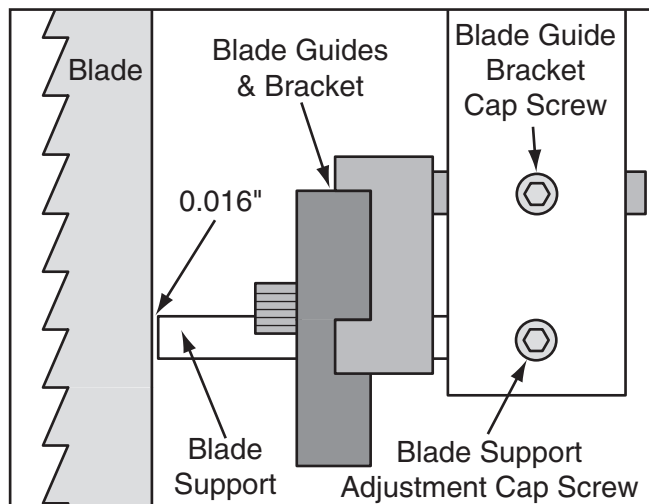

Figure 29. Blade guides and bracket positioned away from blade.
3. Loosen the blade guide bracket cap screw on the guide post (see **Figure 29**).
4. Move the blade guide bracket (with the guides) away from the blade so that only the blade support is near the blade, as illustrated in **Figure 29**.
4. Make sure the blade guide bracket cap screw is loose (see **Figure 29**).